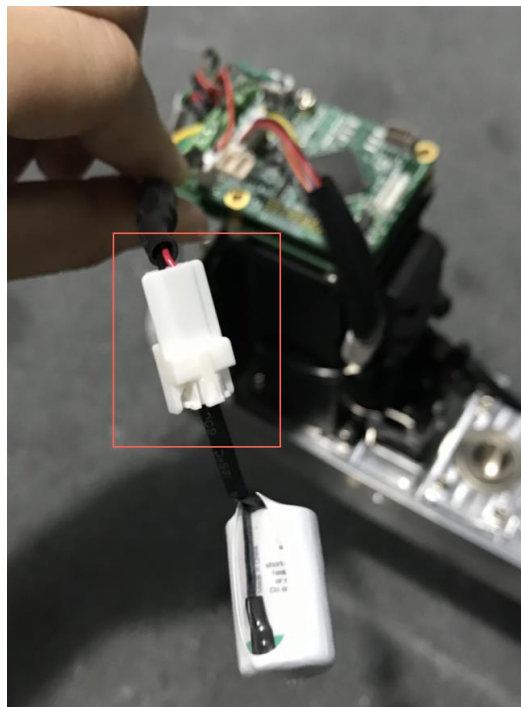

Figure 7.16 Connect the battery to the battery adapter
- Step 6** Connect the connector of the standby battery to the other end of the battery adapter cable, as shown in Figure 7.16.